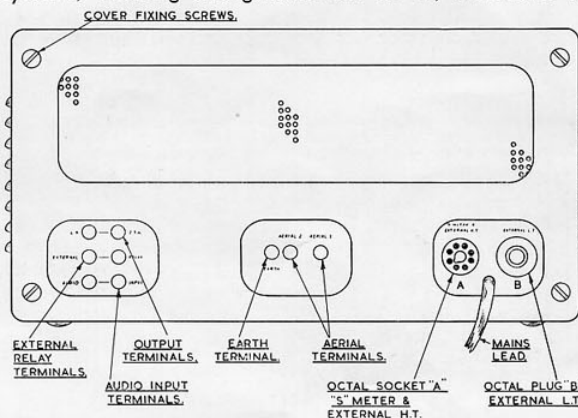

Fig. 2 Rear view of "888" Receiver in outline.
D.C. mains supplies are entirely unsuitable and if connected will cause serious damage. Ensure that the octal plug is in place in the octal socket "B" (nearest the side of the cabinet) as shown in the drawing, Fig. 2.
Balanced feeders are taken to the spring-loaded terminals marked "A1" and "A2" at the rear (see Fig. 2) and a short connection from a good earth made to the terminal marked "E." An unbalanced feeder (e.g. coaxial cable) is connected with the inner lead to "A1" and the outer screen to "A2," a jumper wire being placed across "A2" and "E." A single wire aerial is connected to "A1" and if possible, it should be of a length equivalent (at the operating frequency) to an odd number of quarter wavelengths — usually one or three quarter waves will be convenient. Otherwise, as mentioned earlier, it will be desirable to include a small capacitor in series with the aerial and, if this is made variable, a good match will usually be possible.
The flexible lead from the meter terminates in an octal plug which should be inserted in the socket marked "A" in Fig. 2 at the rear of the receiver.
The switch can also be used to control associated equipment such as a transmitter. Leads from one pair of contacts are taken to terminals at the rear (see Fig. 2) and these contacts are closed when the switch is in the standby ("Off") position. Externally the circuit will consist of a relay and an energising source, usually 6 or 12 volts D.C. but some relays work on A.C. of both high and low voltages. This master relay can then be used, if desired, to control other relays carrying out such functions as automatic aerial changeover, monitor on/off, modulator supplies and so on.